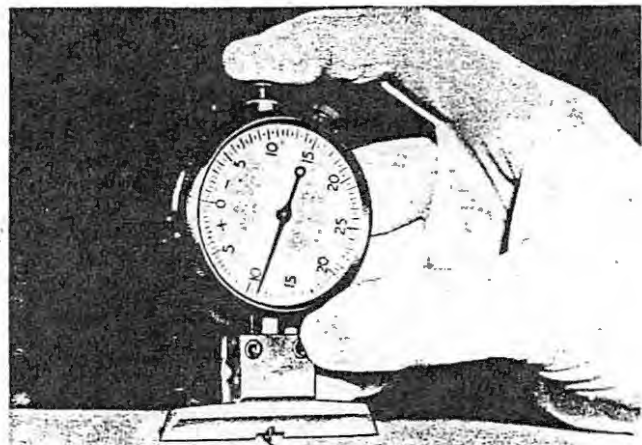

Figure 5-58. Measuring Depth
7. A suggested tool for measuring the depth of depressions is a dial indicator (HSP-1827) having a knife edge base 2.5 inches in length, and a spindle with a phonograph needle at the point. (See figure 5-58.) Determine the deepest point of the damage by visual inspection and careful trial and error method by checking the bottom of the damage with the depth gage and note the indicator reading.